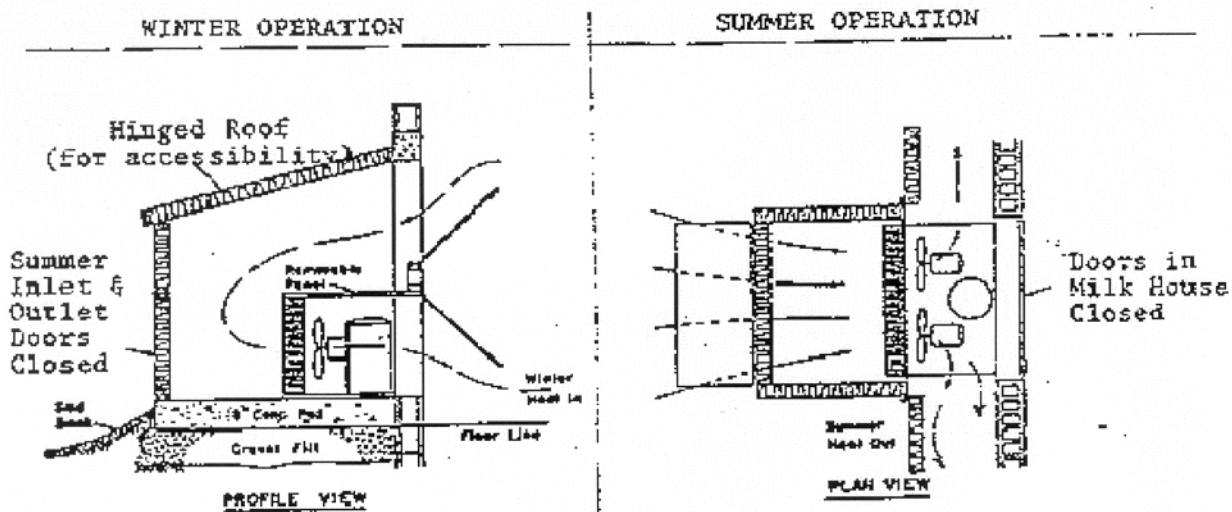

Figure 1
3.1 Location - All Tecumseh Condensing Units are approved for use in ambient temperatures from +32°F to +110°F. The units are not offered for outdoor use unless properly protected from the weather and must have the ambient maintained above 32°F. Please refer to Figures 1,2 and 3, which illustrate typical methods of installing the condensing unit so as to meet the above criteria as relates to ambient temperature and weather protection. A recommended maximum length of line (unit to tank) is 35 feet. If a greater length is required, contact Tecumseh Compressor Company.